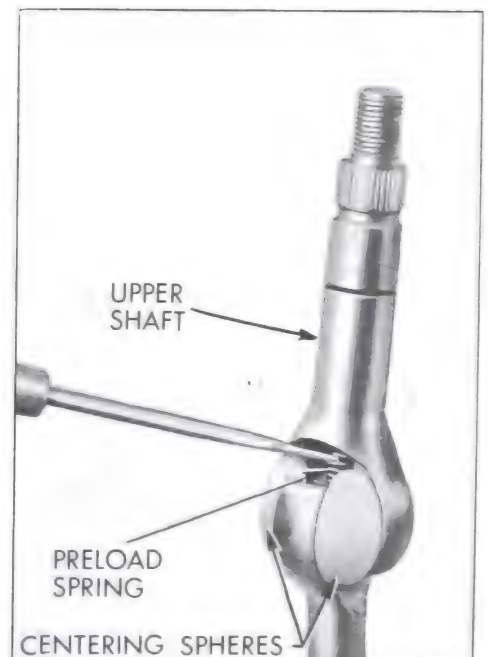

Figure 8-87—Removing Joint Preload Spring
2. Using a narrow bladed screwdriver, compress joint preload spring enough to remove from upper shaft, then remove spring from centering spheres. See Figure 8-87.